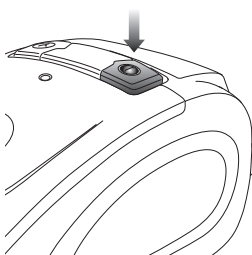

Fig. 4
- 4** Press the On/Off Button once to turn the vacuum "On". (**Fig. 4**)